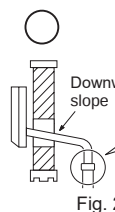

Fig. 2
- 5) Attach conduit pipe (for rear piping) / elbow joint (for right, left, or downward piping) to conduit plate with lock nut. The thread of the installed conduit pipe / elbow joint appearing inside should be less than 3/8 in. (10 mm). (Fig. 2)
- Pull out the drain hose at the back left of the indoor unit. (Fig. 2)
- The drain hose should point downward for easy drain. (Fig. 2)